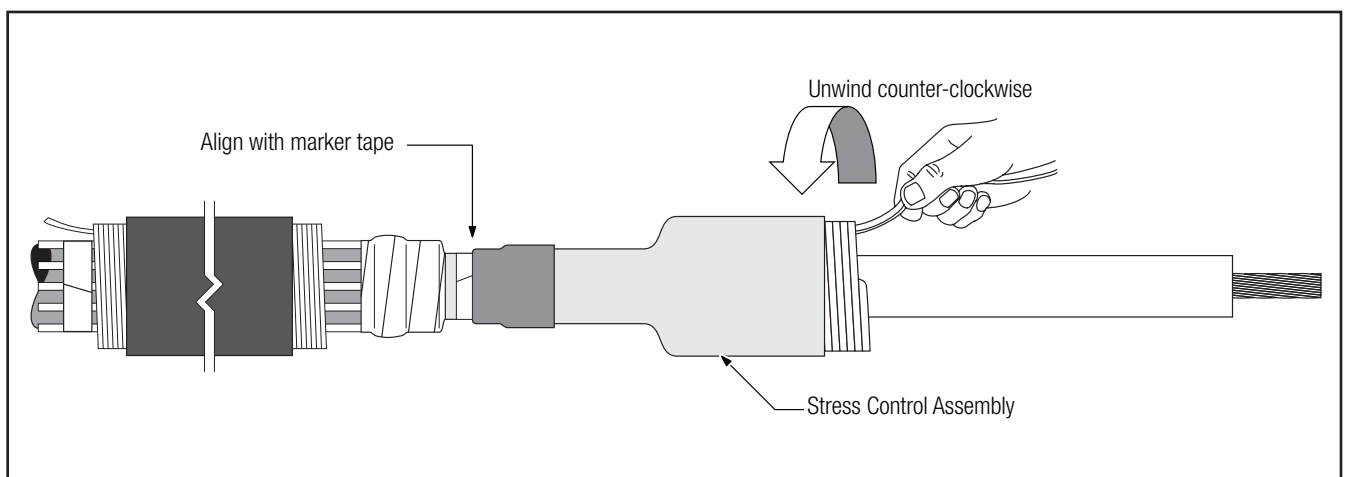

Figure 8
3.4 Select the Stress Control Assembly (medium length tubular assembly on white core) from the kit. Slide the Stress Control Assembly over the cable with the loose core end toward the cable end. Align the Stress Control Assembly Tube (not the core) with the marker tape, and remove the core by pulling the loose end while unwinding counter-clockwise. (Figure 8)